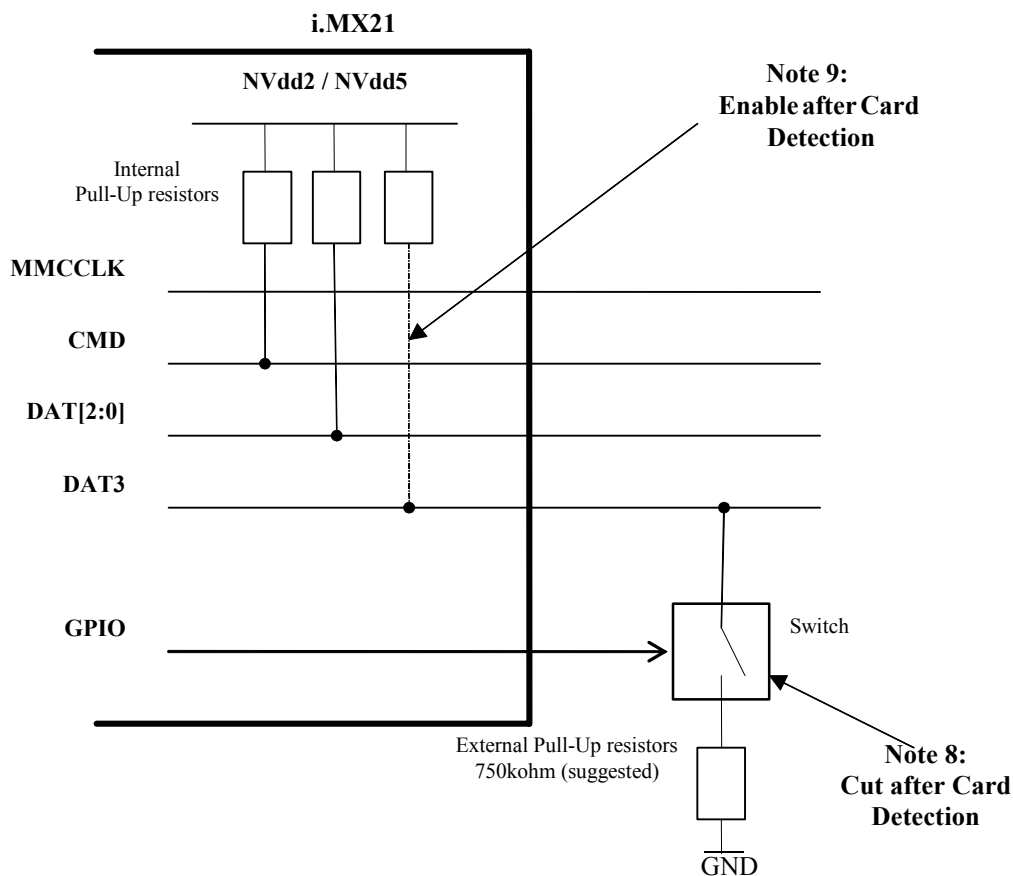

Figure 4. Pull-up / Pull-down Resistor Setting for Card Detection
connected to DAT3 line. Moreover, the following software implementations must occur: (See also Figure 4.)
- Disconnect the external pull-down resistor to DAT3 line (Note 8 in Figure 4).
- Enable the i.MX21 internal pull-up resistor for DAT3 pin (Note 9 in Figure 4).